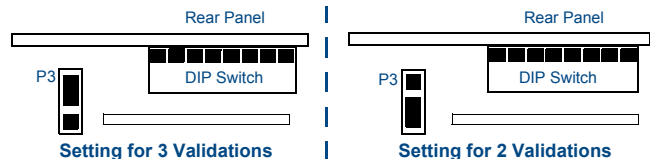

FIG. 2 RF validation jumper settings
1. Locate jumper pins P3 (FIG. 2) on the circuit board.